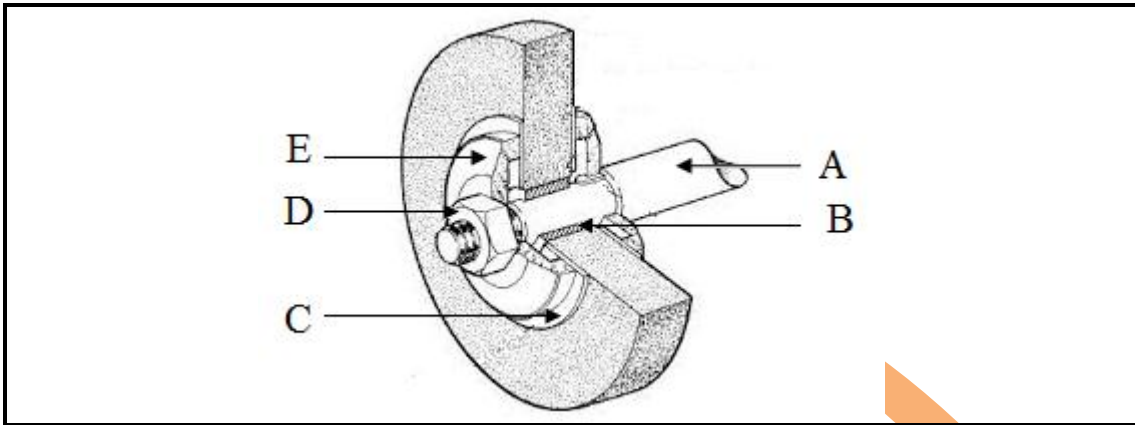

FIGURE 1
1.2 FIGURE 1 shows a grinding wheel assembly.